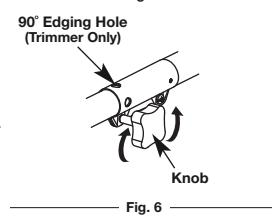

Fig. 6
- Turn the knob counterclockwise to loosen (Fig. 6).
- Turn knob counterclockwise to loosen (Fig. 6).
- Turn the knob clockwise to tighten (Fig. 6).
For decorative trimming/edging with the **line cutting head**, lock the release button into the 90° hole (Fig. 6).